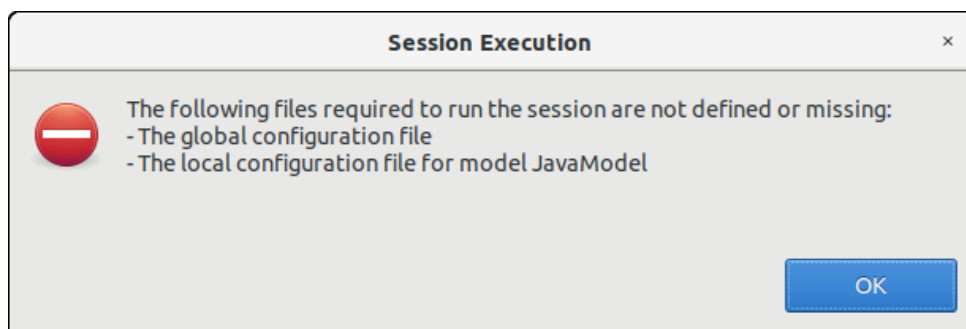

Figure 4-106: Execution prevented due to missing configuration files
- ❑ If the global configuration file for the simulation, or the local configuration file of any active module in the simulation is missing, the execution will not proceed, and a dialog will be displayed listing the missing files as shown in Figure 4-106.